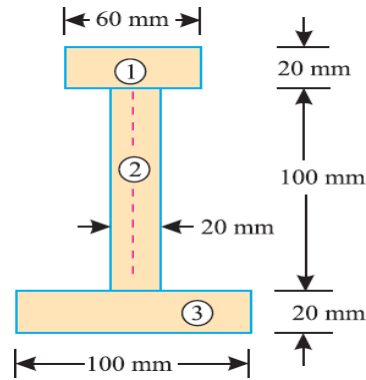

Fig.15
5. An I-section is made up of three rectangles as shown in Fig.15 Find the moment of inertia of the section about the horizontal axis passing through the center of gravity of the section.